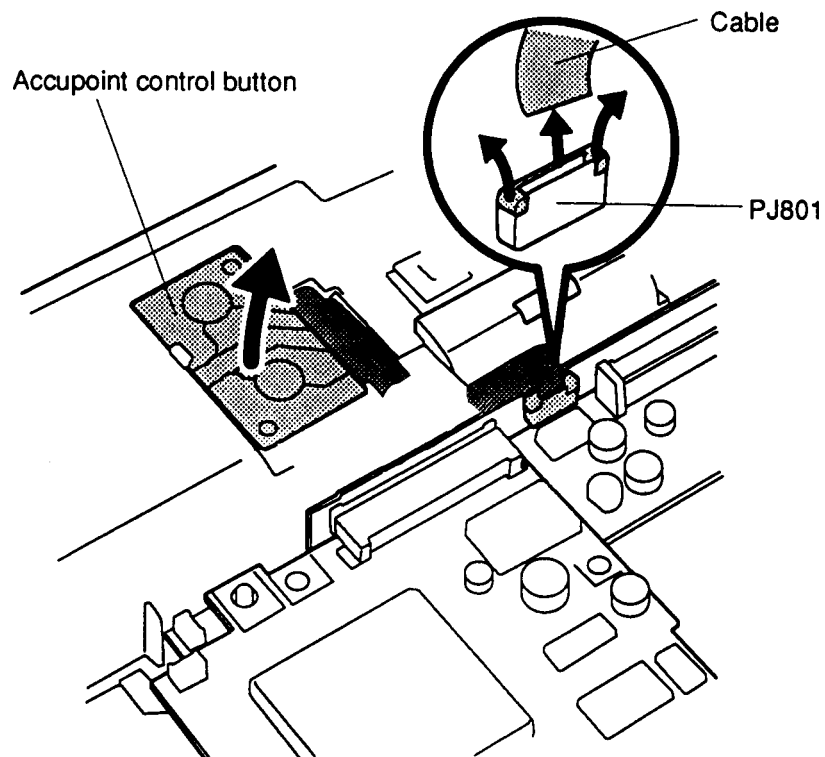

Figure 4-15 Removing the AccuPoint Control Button
To remove the AccuPoint control button, follow the steps below and refer to Figure 4-15.
3. Disconnect the **control button cable** from **PJ801** on the power supply/system joint board (Figure 4-15).
4. Slide the **control button and cable** free of latches on the bottom cover and lift out to remove (Figure 4-15).
To install the AccuPoint control button, follow the steps below and refer to Figure 4-15.
1. Slide the **control button** and cable under the latches on the bottom cover (Figure 4-15).
2. Connect the **control button cable** to **PJ801** on the **power supply/system joint board** (Figure 4-15).